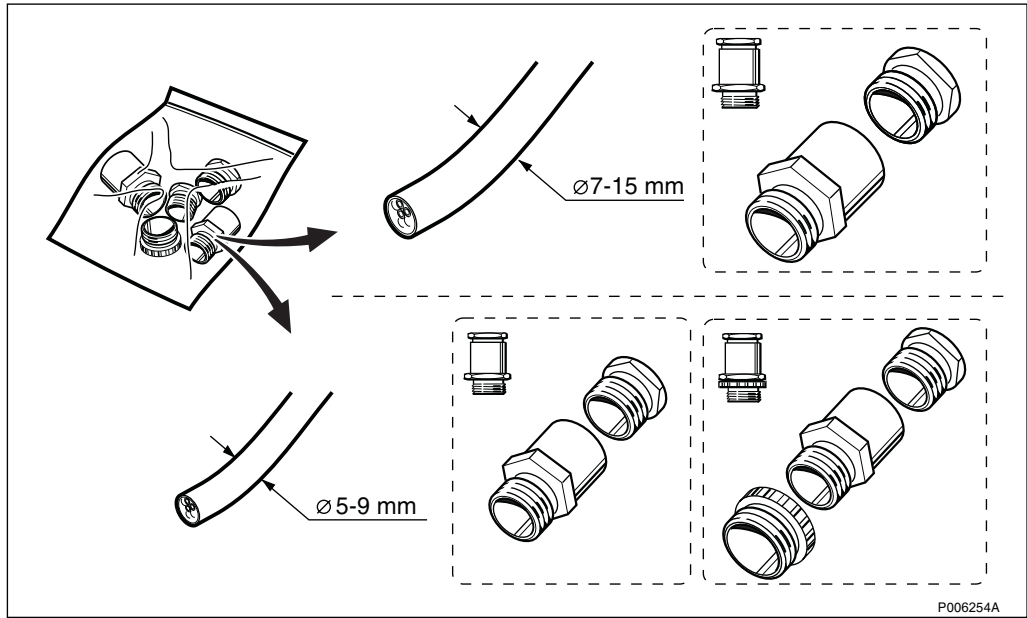

Figure 28 Alternative cable glands
- 9 Set of cable glands to be used if the existing cable glands does not fit the actual cable dimension (see Figure 28 on page 38):